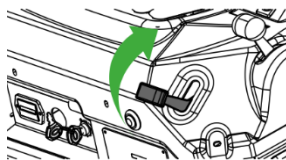

fig.4.2 – Air Command
- The gasoline machine is equipped with a remote air control on the console (see fig. 4.2)